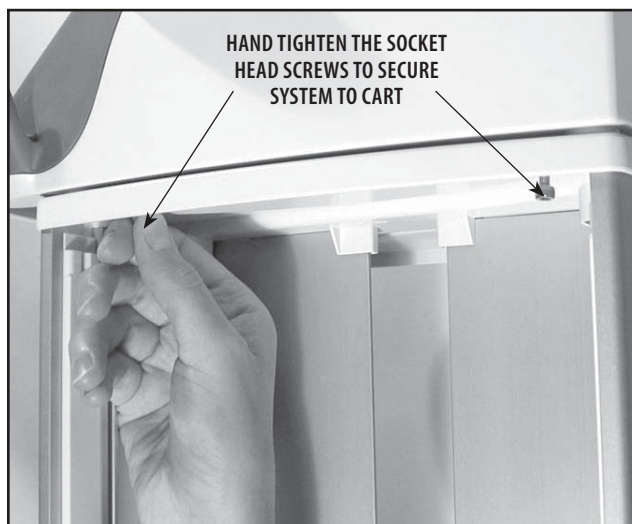

FIGURE 6.51
3. Secure the System to the cart with the four socket head screws in the Therapy System Cart Top. **See Figure 6.51.**